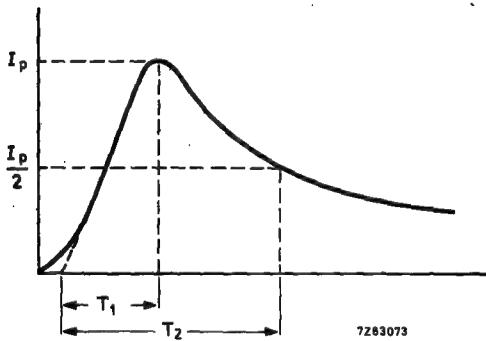
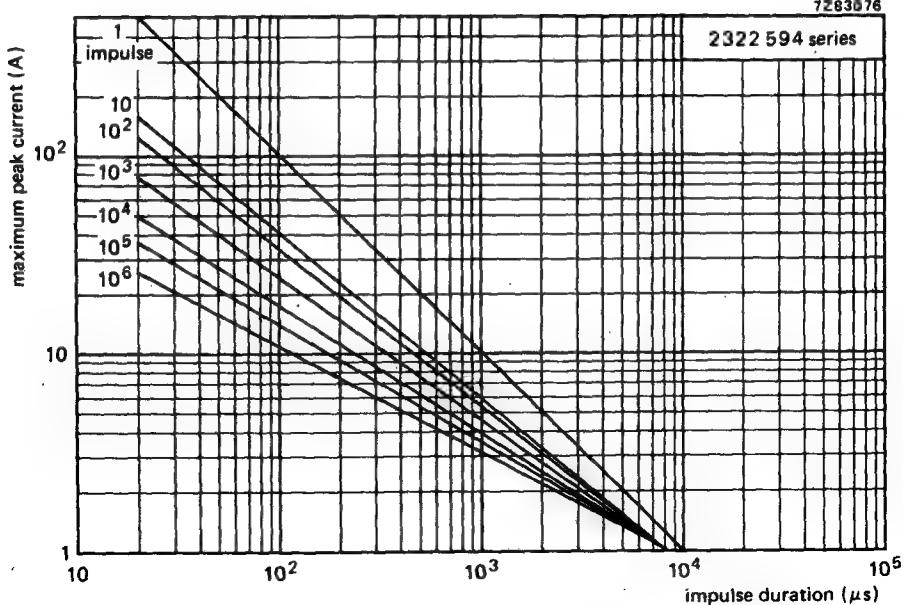

Fig. 4
Fig. 5 Max. applicable transient current as a function of impulse duration.
\* This current is determined by the width  $T_2$  (see Fig.4) and the number of impulses expected during the life of the component. Fig.5 gives the derating for different numbers of impulses.
4. High energy surges are generally of longer duration. The max. energy for 1 impulse 10 / 1000  $\mu$ s is given as a reference for long duration impulses. This impulse can be characterized by peak current  $I_p$  and impulse width  $T_2$  (virtual time to half  $I_p$  value following IEC 60-2 section six), see Fig. 4. If  $V_p$  is the clamping voltage corresponding to  $I_p$ , the energy absorbed in the VDR is determined by equation  $E = K \cdot V_p \cdot I_p \cdot T_2$ ;  $K$  depends on  $T_2$  when  $T_1$  is 8 to 10  $\mu$ s: for  $T_2 = 20 \mu$ s  $K = 1$ ; for 50  $\mu$ s 1,2; for 100  $\mu$ s 1,3; for 1000  $\mu$ s 1,4.